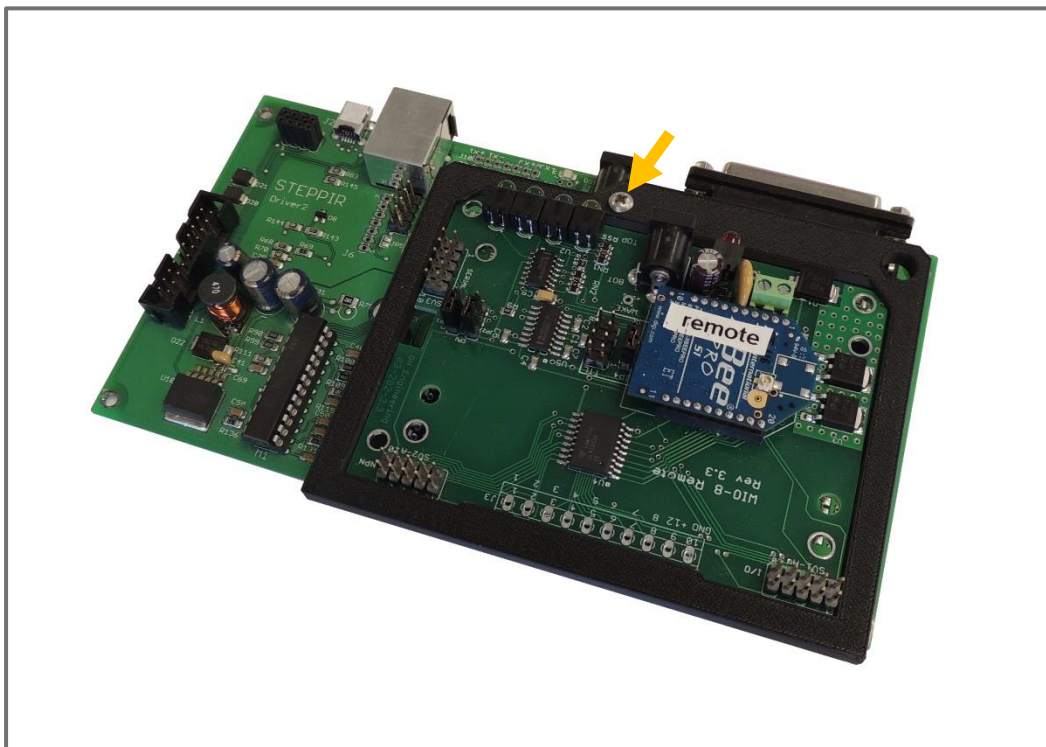

Fig. 16 Wi-Fi board installed on remote driver board.
Step 4: Screw the mounting bracket to the driver board using a pan head screw, as shown in Figure 16.